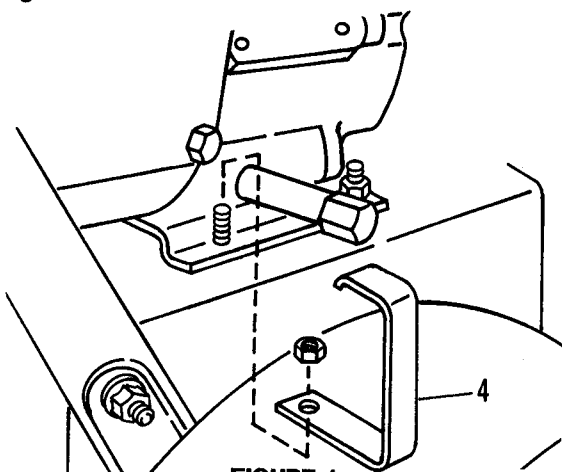

FIGURE 1
**STEP 2:** Remove nut from engine base on right rear side (as viewed from operators position). Install cable bracket (item 4) over stud and secure with nut. See figure 1.